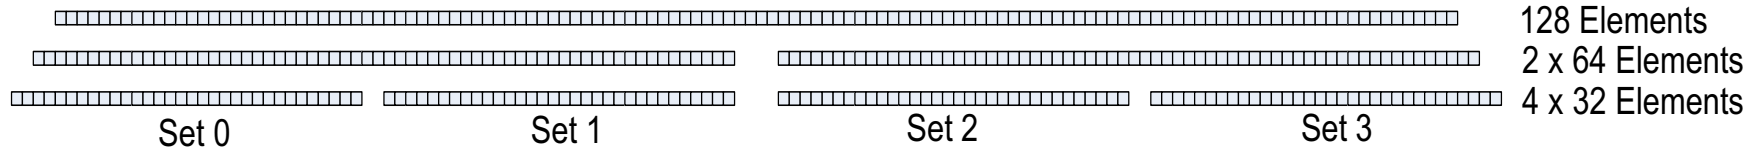

FIGURE 6.5
- As each Fermi SM can execute a maximum of 48 warps, multiple blocks will need to be iterated through, which allows for smaller problem sizes and speedups on future hardware. See Figure 6.5.